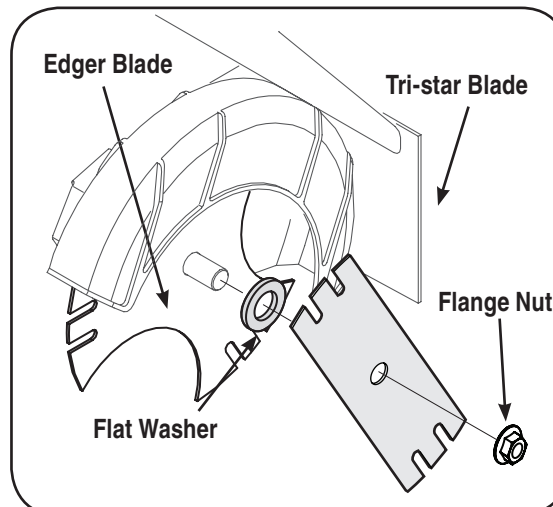

Figure 5-5
1. Use two wrenches (one wrench to prevent hex bolt head from spinning and the other to unthread the flange nut) to remove flange nut that secures edger blade, leaving the edger blade in place. See Fig. 5-5.
5. Install the additional edger blade supplied with your unit (model 554) and the flat washer. See Fig. 5-5.